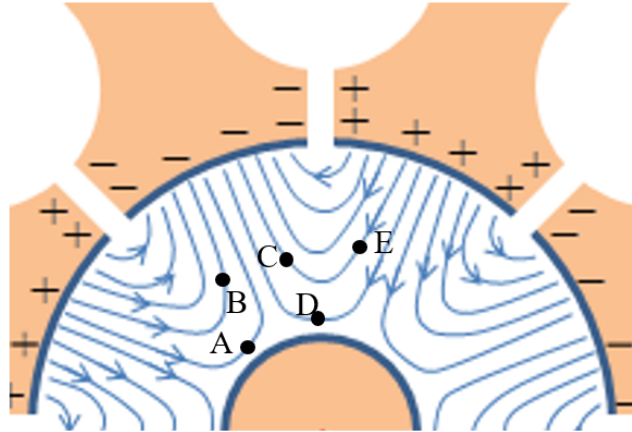

Figure 2
Experiments show that when the spring is hung at rest and then released, it gradually contracts from the top, while the lower part remains stationary (see Figure 2). As time advances, the contracting part moves as a solid chunk and accumulates additional turns of the spring, while the stationary part becomes shorter. Every point on the spring begins to move only when the moving part reaches it. The bottom end
Figure 2: Left: a sequence of pictures taken during the free fall of slinky. Right: the moving part I and the stationary part II during the free fall of the spring.
B.2 In this task ℓ is used to denote the coordinate of the boundary between parts I (in figure 2, the moving part) and II (the stationary part). At a certain moment, while a stationary part still exists its mass is $m(\ell) = \frac{\ell}{L_0}M$, and the moving part moves with uniform instantaneous velocity $v_I(\ell)$. Show that at this moment (while there exists a stationary part) the velocity of the moving part is $v_I(\ell) = \sqrt{A\ell + B}$. Express the constants A and B in terms of L_0 , g and α . 2.5pt
- A.4** Figure 2 depicts the alternating electric field lines between the anode and the cathode at a given moment in time (the static field is not plotted). Indicate in the Answer Sheet which of the electrons positioned at A,B,C,D and E will drift towards the anode, which will drift towards the cathode and which will drift at a direction perpendicular to the radius at that moment. 1.2pt